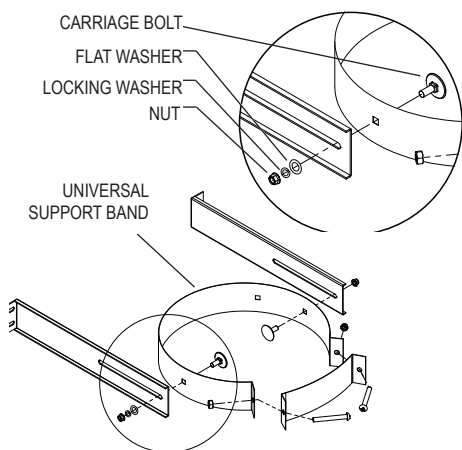

Figure 5
For Universal components, use the carriage bolt through the band and through the leg. Use (1) flat washer, (1) locking washer, and (1) nut per side to secure to carriage bolt (**Fig.5**). Ensure carriage bolts are directly across from each other.